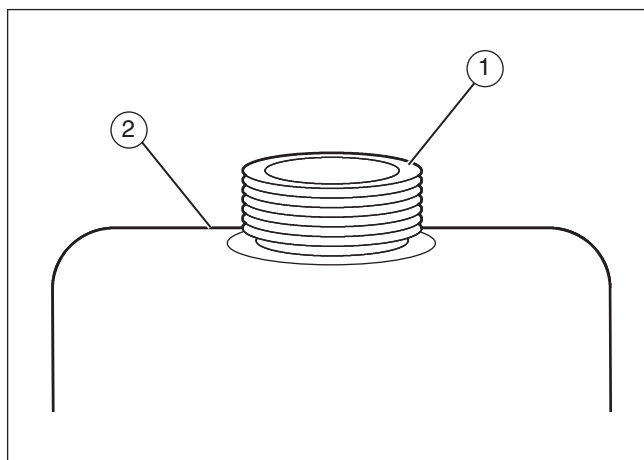

Figure 6
Fill the fuel tank (1) to the **FULL** (2) position with regular unleaded petrol (see **Figure 6**). Do not use premium unleaded petrol. Make sure the petrol is fresh and clean. Leaded petrol will increase deposits and shorten the life of the valves.